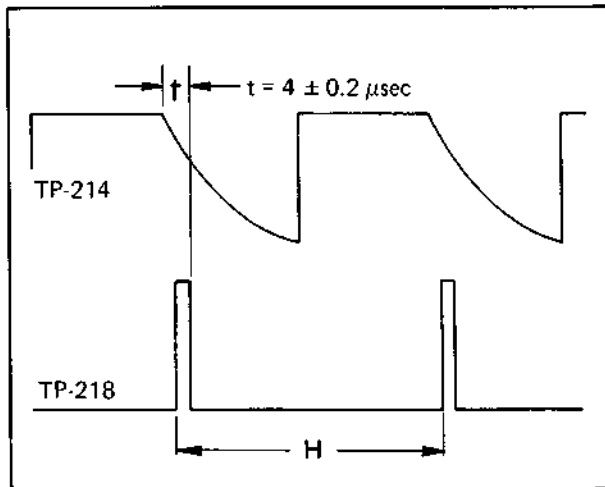

Fig. 6-33 AFC adjustment
4. Adjust R311 (AFC) so that width of "t" is $4 \mu\text{s}$ as shown in Fig. 6-33.